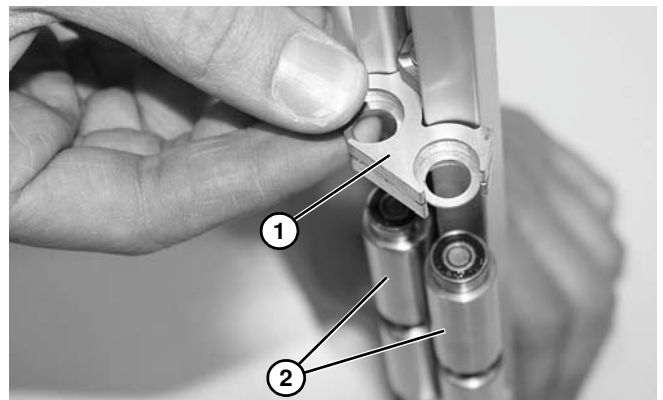

Figure 110
8. Remove bearing carrier (if installed) (**Figure 110, item 1**) and spindles (**Figure 110, item 2**).